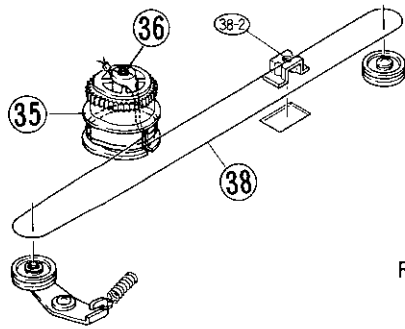

Figure 12
1. Prior to mounting, Wire Assy (38) should be rolled two turns by Wheel (35) (Fig. 12).
4. Place the Guide (38-2) to the depressed part on Cabinet bottom (Fig. 12).